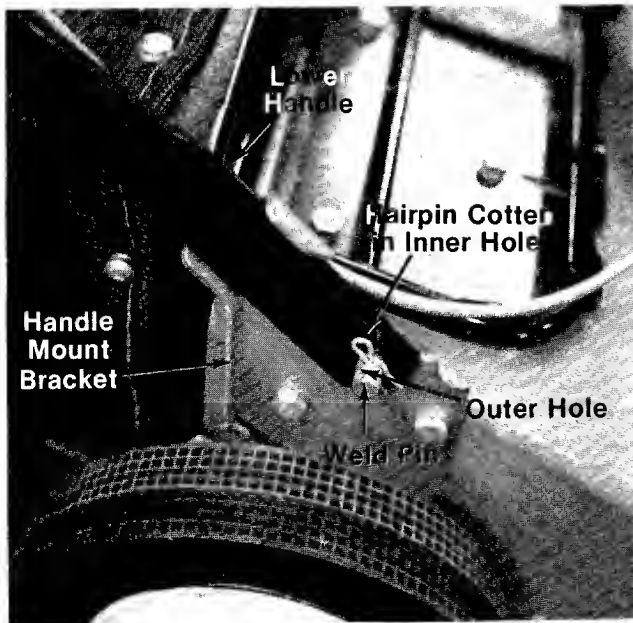

FIGURE 2.
3. Place lower handle in position over weld pins in handle mount brackets on deck. Secure by placing two hairpin cotter pins (F) in inner hole on weld pins. See figure 2.